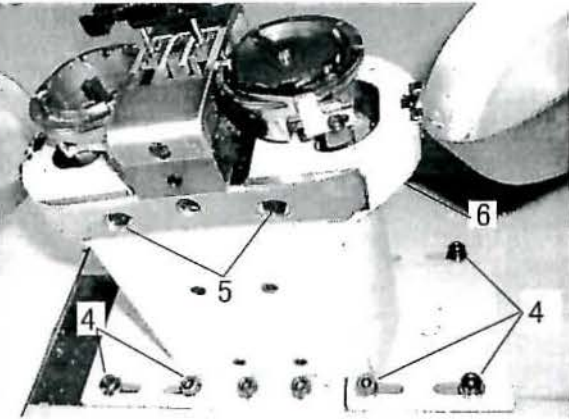

Fig.21
15. TIMING BETWEEN THE HOOK AND THE NEEDLE (Fig. 21, 22&23)
- 1) Normal clearance between hook point and scarf of the needle is in 0.02 - 0.1 mm. (Fig.21).